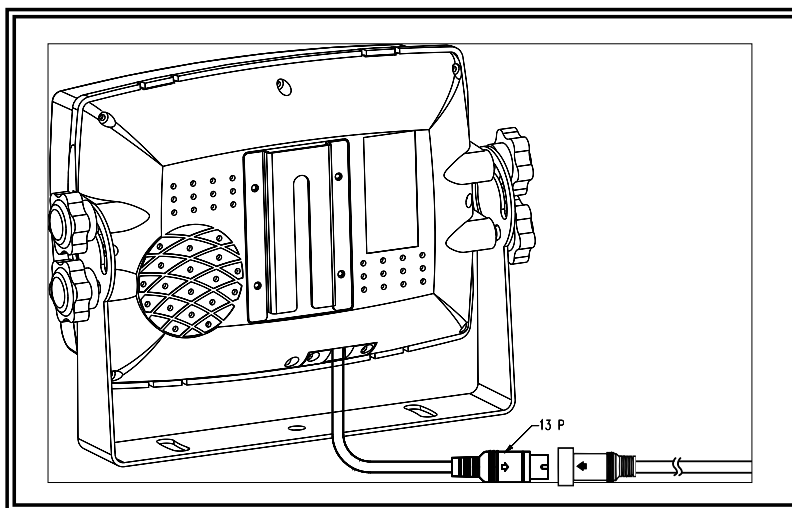

Figure 4
3. Put on the sun-visor and connect the monitor with the AV and power supply conversion cable (Figure 4)